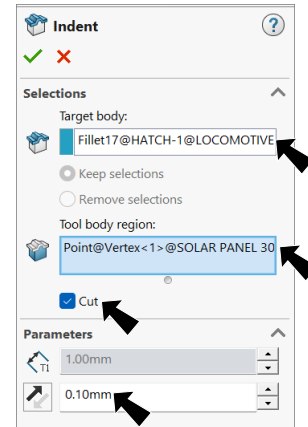

Fig. 27
- under Selections, **Fig. 27**